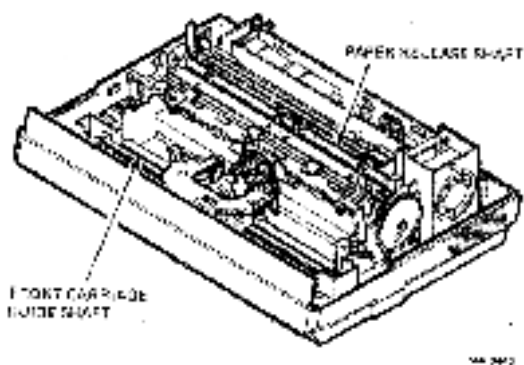

Figure 2-13 Mechanical Subassembly Removal
10. Grasp the square paper release shaft and turn front carriage guide shaft (Figure 2-13). Lift the mechanical subassembly straight up and out of bottom cover.